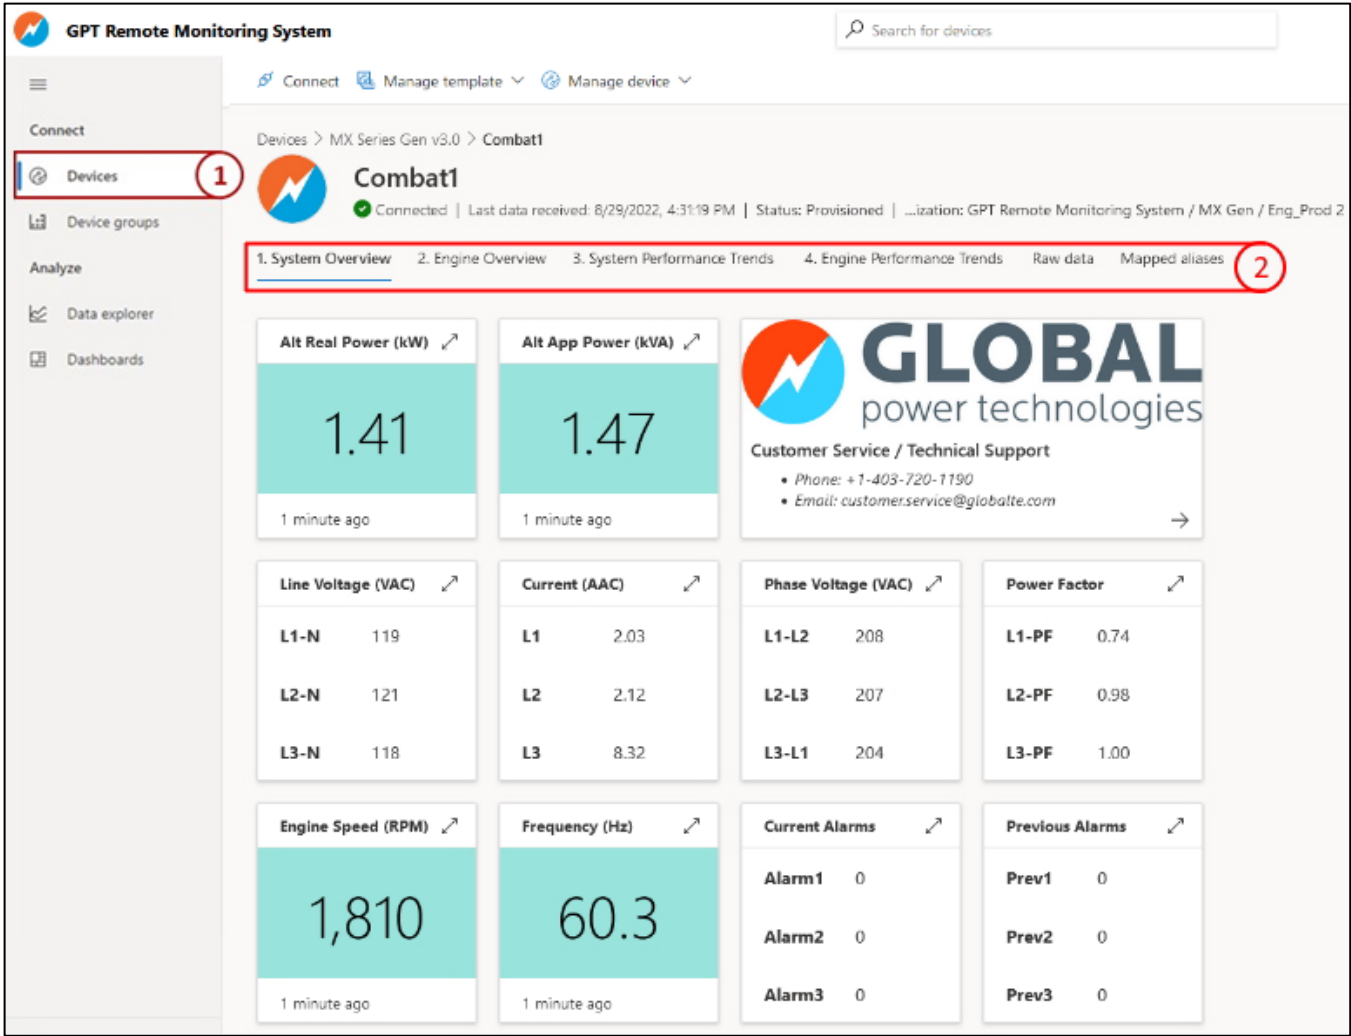

Figure 7-3 – Remote Monitoring System Dashboard
3. Once logged-in, the page will open to the Remote Monitoring System Dashboard which shows information about your MX unit(s). Refer to Figure 7-3.